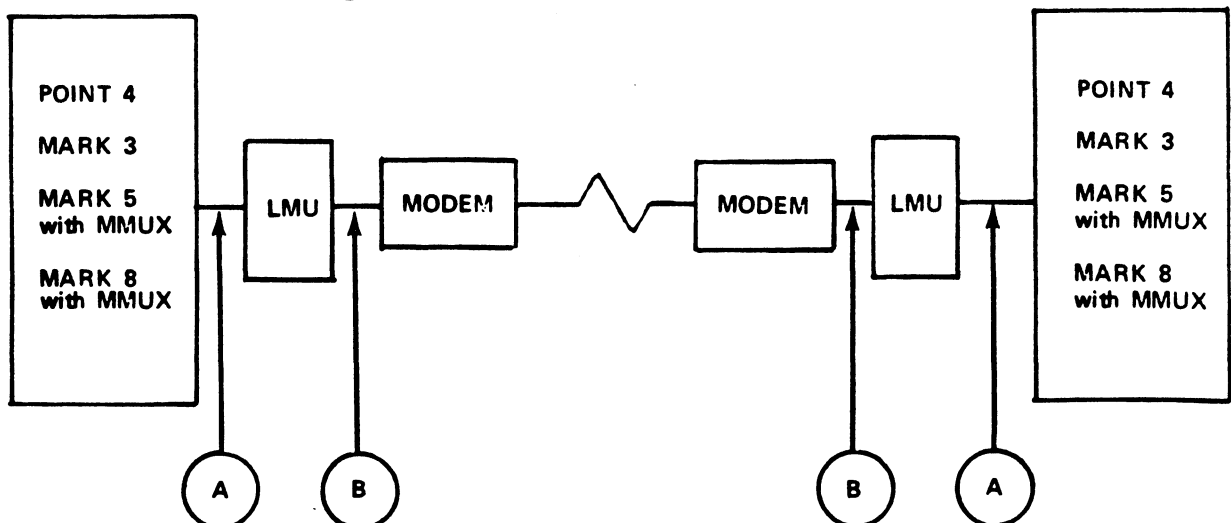

Figure 2. Remote Link for \$COM
(see Figure 2, Cable A)
(see Figure 2, Cable B)
1. Insure correct configuration (Figure 2).